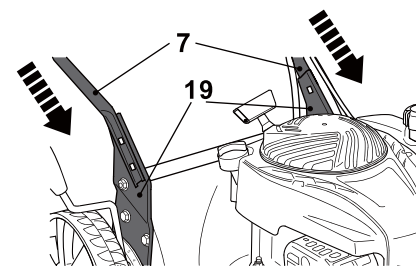

Fig. 3
4. Remove the covers from the lower handle bar (7).
5. Align the lower handle bar (7) with the handle supports (19). Make sure the holes in the lower handle bar are aligned with those in the supports (Fig. 3).